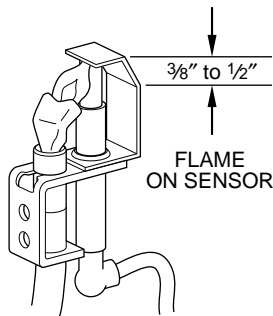

Fig. 9—Pilot Flame and Sensor
Pilot flame should surround 3/8- to 1/2-in. of pilot sensor. (See Fig. 9.) If flame needs adjusting, proceed as follows:
2. Insert small screwdriver and adjust flame as needed. (See Fig. 9 and 11.) Turn screw counterclockwise to increase flame and clockwise to decrease flame.
A visual check of pilot and main burner flames should be made at least once each year, preferably at beginning of heating season. See Checking and Adjusting section and Fig. 9, 11, and 12. Main burner flame should form a sharp blue cone with no yellow.